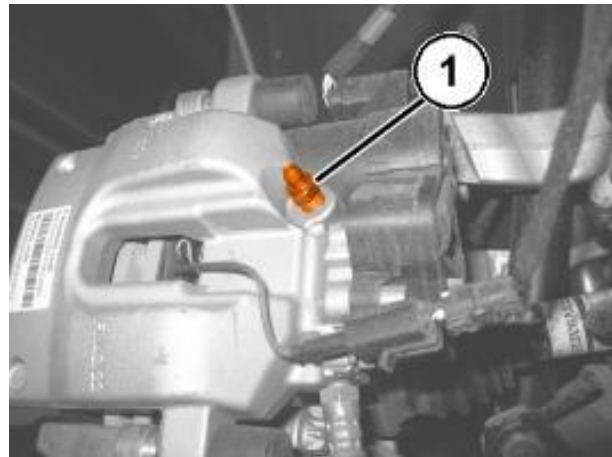

Figure 77 – Brake Bleeder Valve
118. Working at the right rear caliper, position the brake fluid recovery hose to the bleeder screw (1) and to the recovery container. Open the bleeder screw (1) and without applying any pedal pressure on the system, allow a small amount of brake fluid to drain into the recovery container. Then tighten the bleeder screw and remove the recovery hose (Figure 77).
- 123. Connect the pipe to the valve of the rear right brake caliper. Open the valve, slowly press the brake pedal down fully three or more times, until there are no more air bubbles in the hose through which the oil flows into the container. Tighten the bleed valve to the prescribed torque of 10 N·m (89 In. lbs.) (Figure 77).